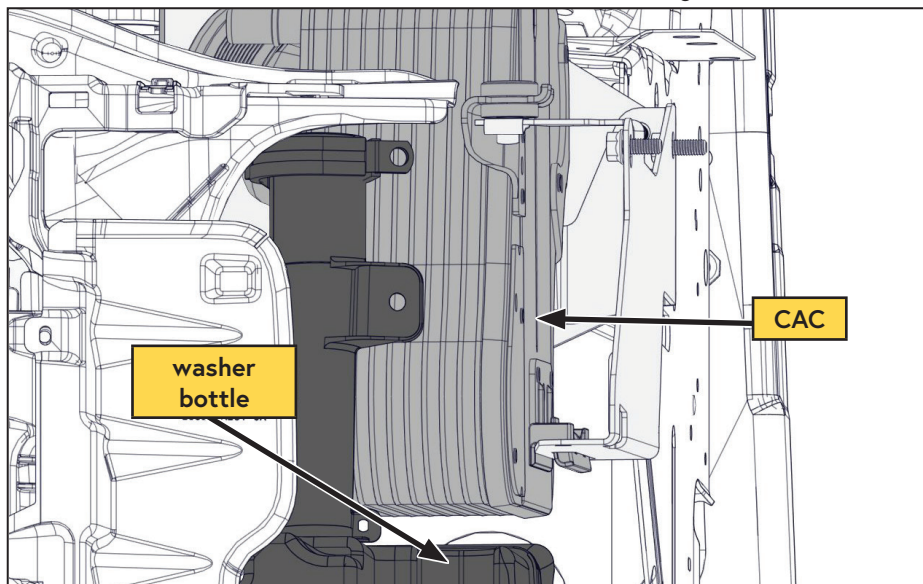

Figure 87 — Installing the CAC
- ☐ Install the CAC onto the VMAC CAC relocation bracket (Figure 87).